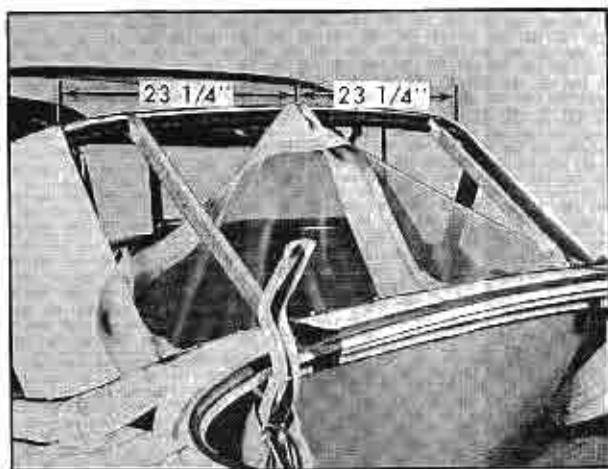

Fig. 3-108 Tacking Quarter Stay Pads to Rear Bow
5. Tack the quarter stay pads to the rear bow with the inner edges 23-1/4 inches from the center of the bow, as indicated in Fig. 3-108. Trim off excess material at rear bow.